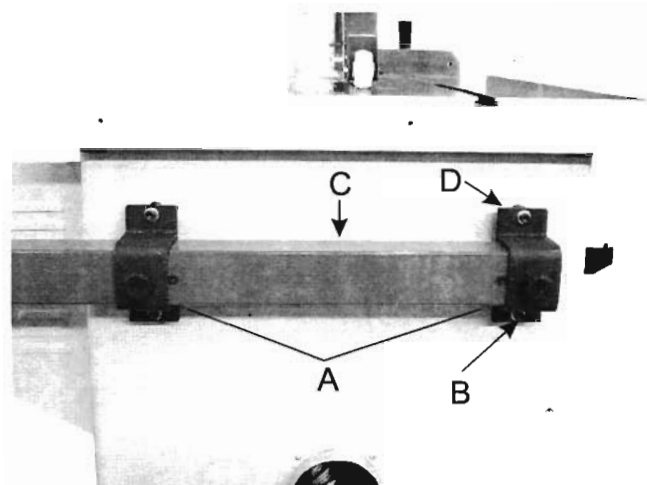

Figure. 12
- Machine with the overhead guard bracket D (Figure. 12) is adjusted at the factory.
- Remove overhead guard two set screw A (Figure. 12) install overhead guard C (Figure.12) into overhead guard bracket using the allen key provided, securely tighten the two set screw A(Figure. 12). Then tighten two lock knob B (Figure. 12).